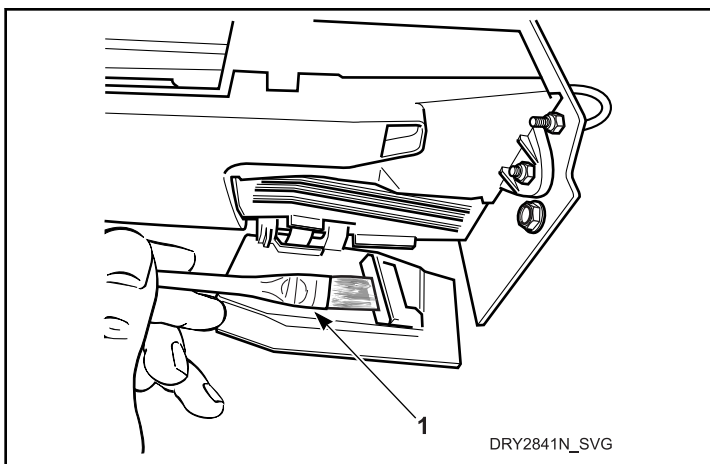

Figure 38
6. Clean residue from coin rail and pendulum inside flap with an alcohol-moistened soft brush. Refer to *Figure 38*.